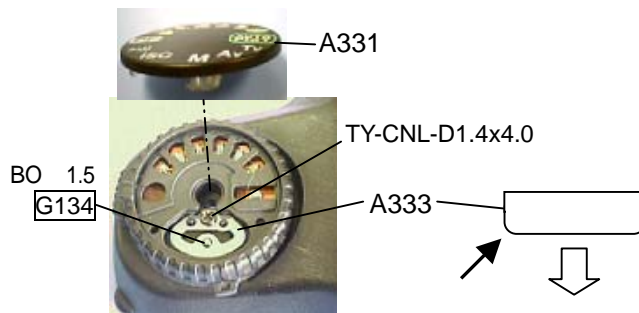

Fig.120
- 2) A333 (Rounded corner to be installed bottom side as shown in Fig.120.), TY-CNL-D1.4x4.0